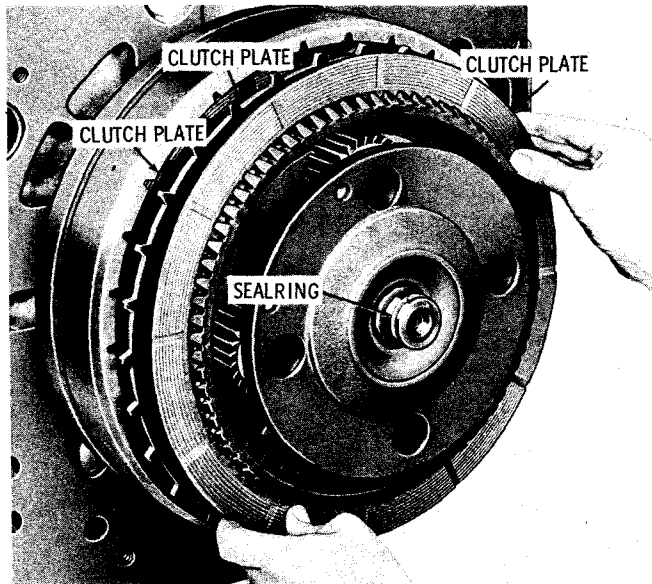

Fig. 7-69. Installing low-splitter clutch plates (CT, CLT, VCLT) S1713
(8) Install the hook-type sealing onto the turbine shaft. Install one internal-splined plate, one external-splined plate and one internal-splined low-splitter clutch plate (fig. 7-69).